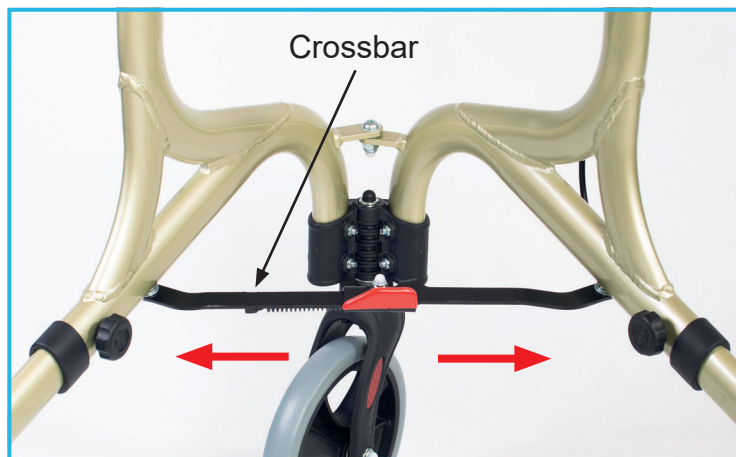

Figure 3: Unfolding the Rollator
1. Refer to Figure 2 and Figure 3. Gently pull the main frame apart until the spring locks the cross-bar open.